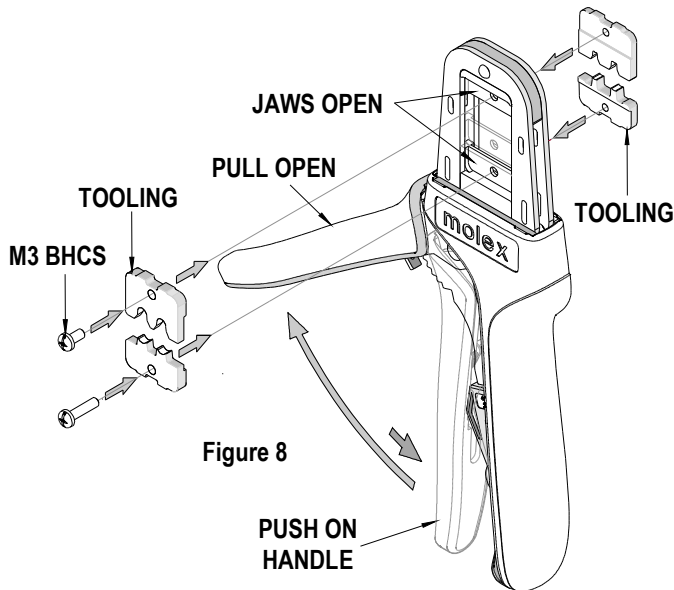

Figure 8
2. Remove the M3 BHCS which is holding the upper tooling. Flip the upper tooling to the opposite side and replace the M3 BHCS. Make sure the small markings on the front and back of the hand tool frame, match up and are on the outside of the hand tool frame. See Figure 8 and 9.